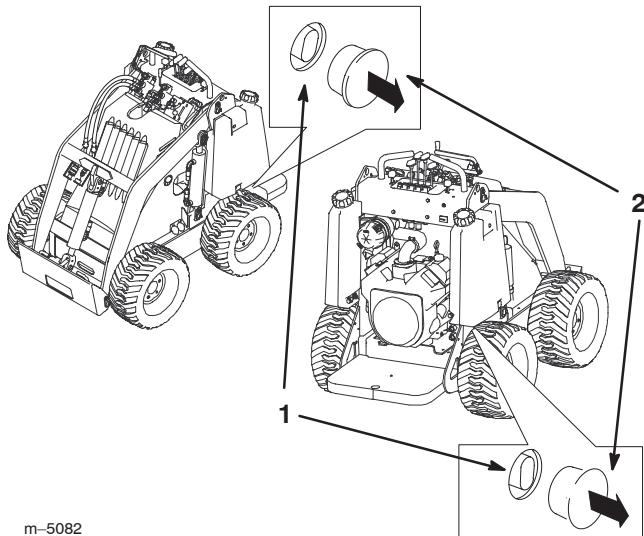

Figure 11
2. Remove the plug covering each tow valve (Fig. 11).
3. Loosen the jam nut on each tow valve (Fig. 11).